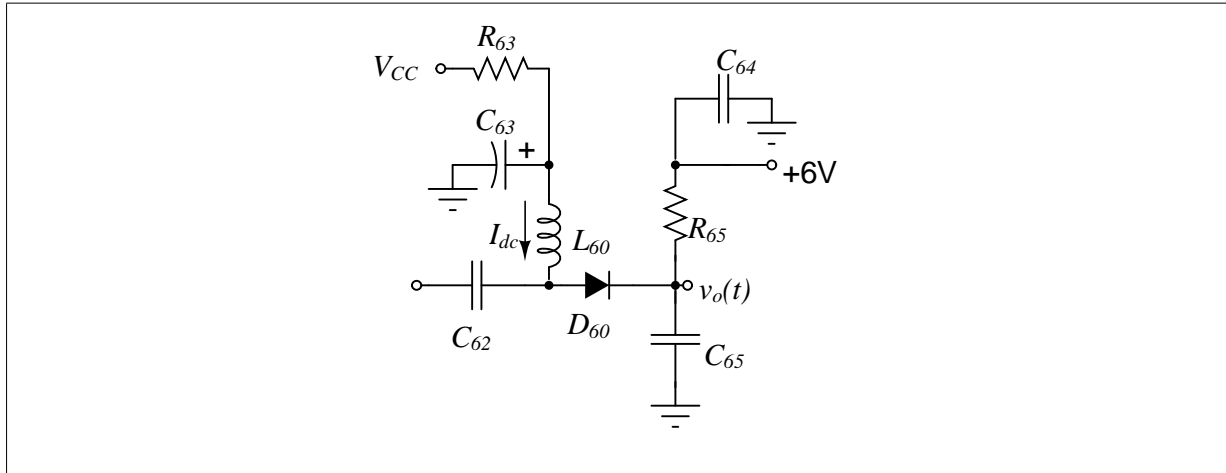

Figure 1: TRC-11 envelope detector circuit.
1. The envelope detector circuit of TRC-11 is given in Fig. 1. It serves to recover the AM modulation signal present on the RF signal. It does so by rectifying the positive side of the AM modulated signal. A low-pass circuit composed of C65 and R65 gets rid of the RF signal frequency.
1. A PIN diode acts like an RF resistance whose value is determined by the DC current flowing through it. It is inserted between the first and second IF amplifiers when the jumper JP70 is shorted. If the DC current through it increases, its resistance reduces and hence attenuates the signal going to the second IF amplifier as shown in Fig. 1. Refer to the datasheet of the PIN diode on page 375. Find the reverse breakdown voltage, V_R , and the series RF resistance, R_S , and the forward voltage, V_F of the PIN diode when 1 mA DC flows through it.